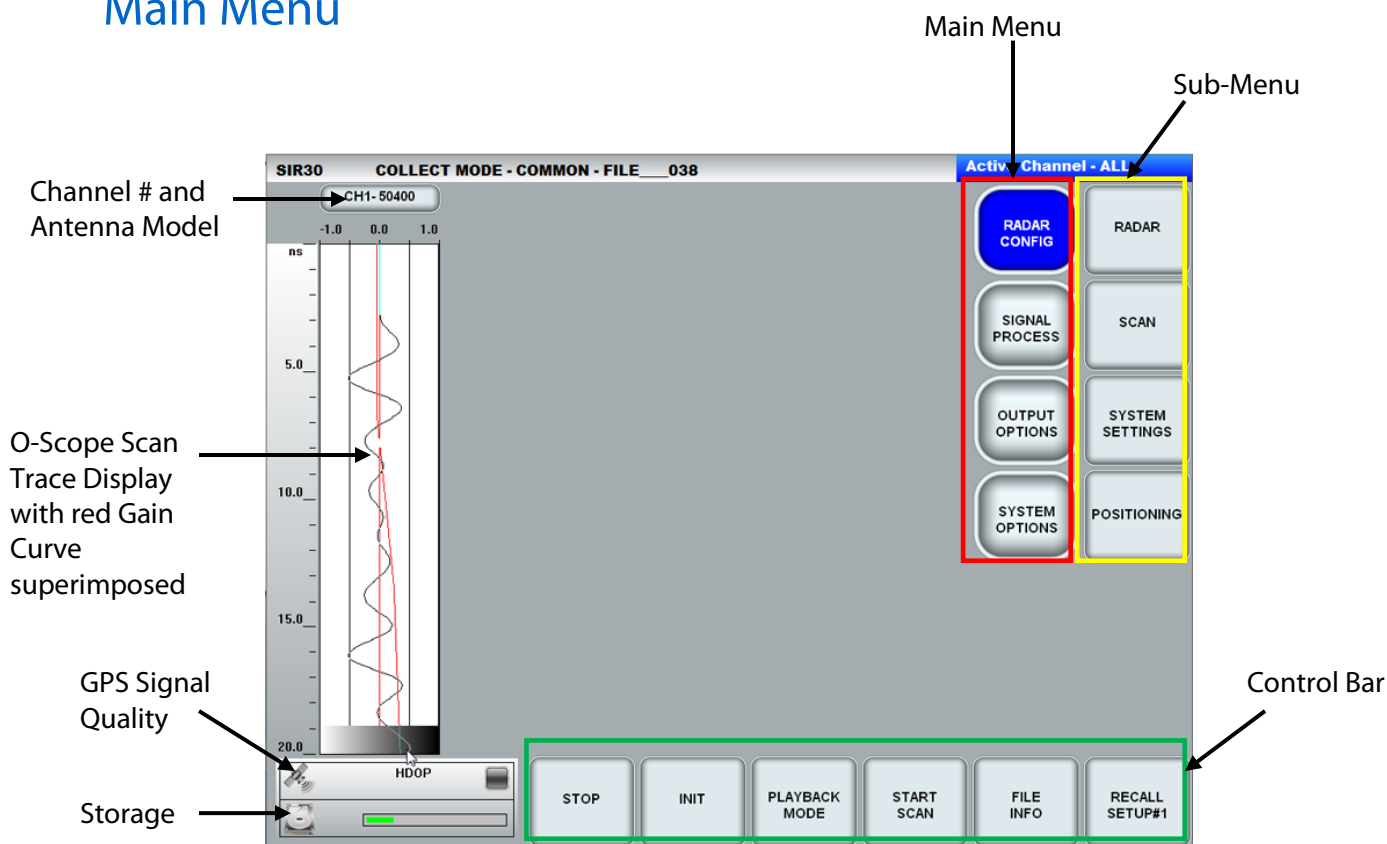

Figure 4: Control Screen
- Clicking **Accept** will cause the antenna(s) to initialize and display the Control Screen shown in Figure 4.
Figure 4 shows the Control Screen with a simple, one antenna case. Clicking the Channel#/Antenna Model button will activate that channel.